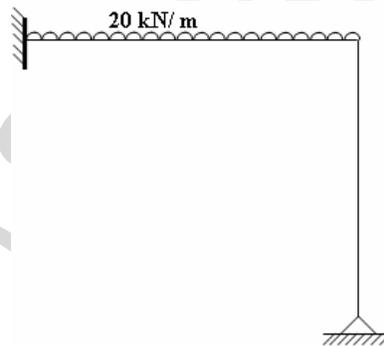

Fig. 5
7. Using flexibility method, analyse the plane frame shown in Fig.5 and draw the bending moment diagram. [16]